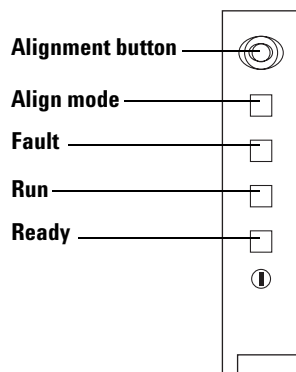

Figure 62 Aligning the turret
- 8 Use the round end of the needle support assembly to press the recessed Alignment button above the indicator lights. See Figure 62.